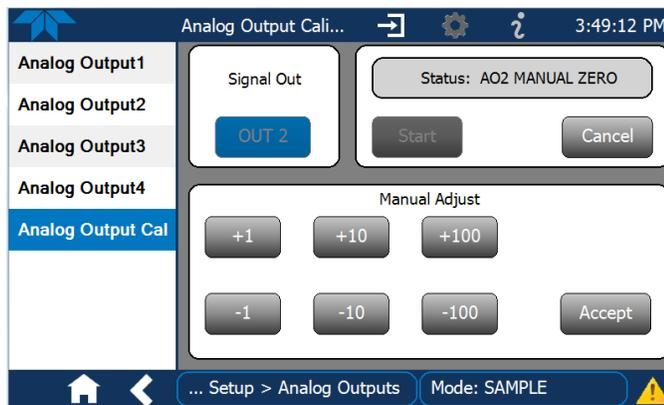
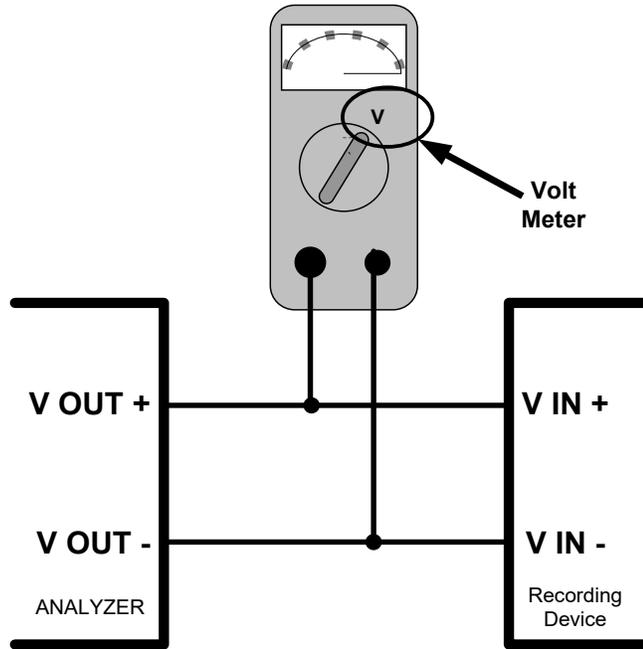

Figure 2-41. Analog Outputs Manual Calibration Screen (AOUT2 Example)
Figure 2-42. Setup for Checking / Calibrating DCV Analog Output Signal Levels
- MANUAL for individual calibration (Figure 2-41) of analog outputs where manual adjustments can be made (the only calibration type allowed when Current is selected for the Range). See Sections 2.5.8.1 and 2.5.8.2 .
It is possible to manually calibrate the voltages by using a voltmeter connected across the output terminals (Figure 2-42) and changing the output signal level in the Manual Adjust field of the Analog Outputs Calibration screen (Figure 2-41). Refer to Table 2-11 for voltage tolerances.